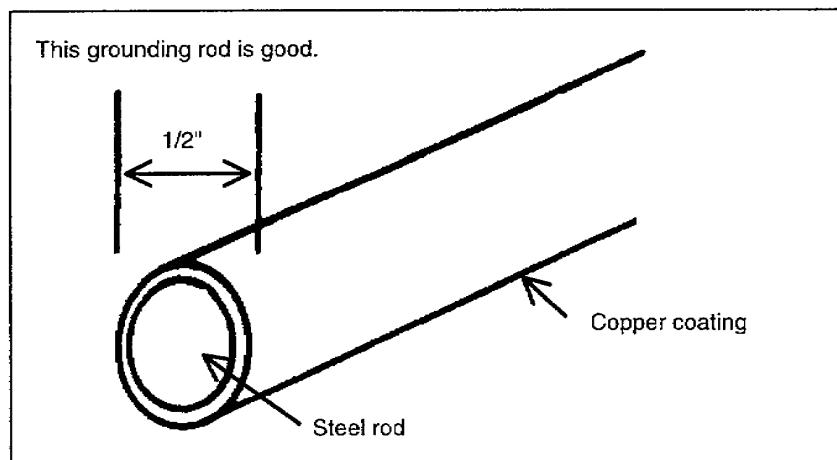

Figure 1-3. Copper-coated, steel grounding rod
b. A copper-coated, steel grounding rod is at least 1/2 inch in diameter (Figure 1-3).